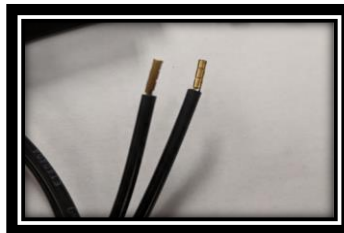

FIG 9.2
24. Refer to FIG 9.2, Inspect to assure crimp barrels are straight to wire. If barrels are removed ensure wire stranding is twisted and straight to wire insulation. Ensure all conductor areas are kept clean and free of contamination.